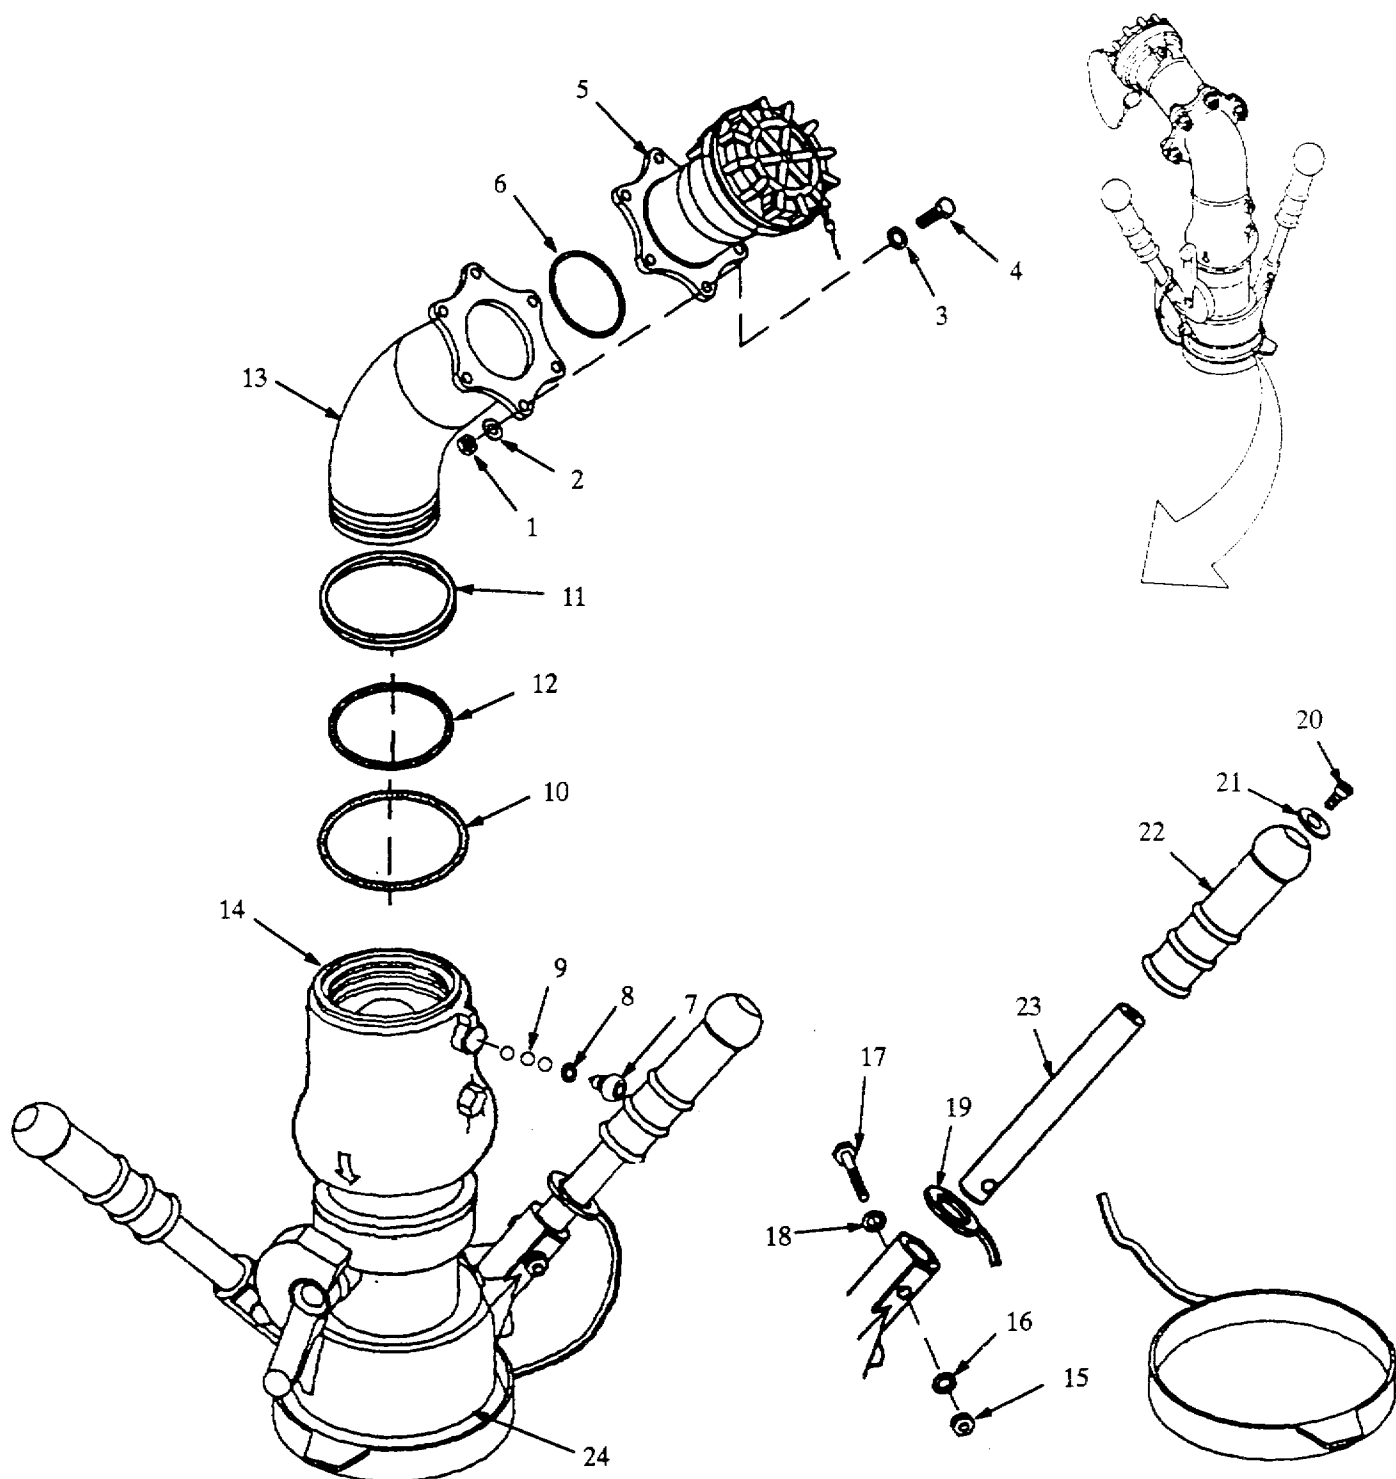

Figure 4-1A. Pressure Fuel Servicing Nozzle (D1) Repair.
c. Inspection. Refer to figure 4-1A.
- (1) Inspect inlet elbow (13) for cracks and corrosion. Check for scratches and abrasion at all sealing surfaces.
- (2) Inspect regulator (14) for cracks, corrosion and damaged or missing parts.
- (3) Inspect coupling adapter (5) for cracks, missing components and corrosion.
- (4) Inspect collar (24) for cracks and corrosion.
d. Repair. Replace damaged or defective components. Replace all mandatory replacement parts. Repair non-valved dry break coupling on coupling adapter (para 4-14).e. Assembly. Refer to figure 4-1A.**NOTE**